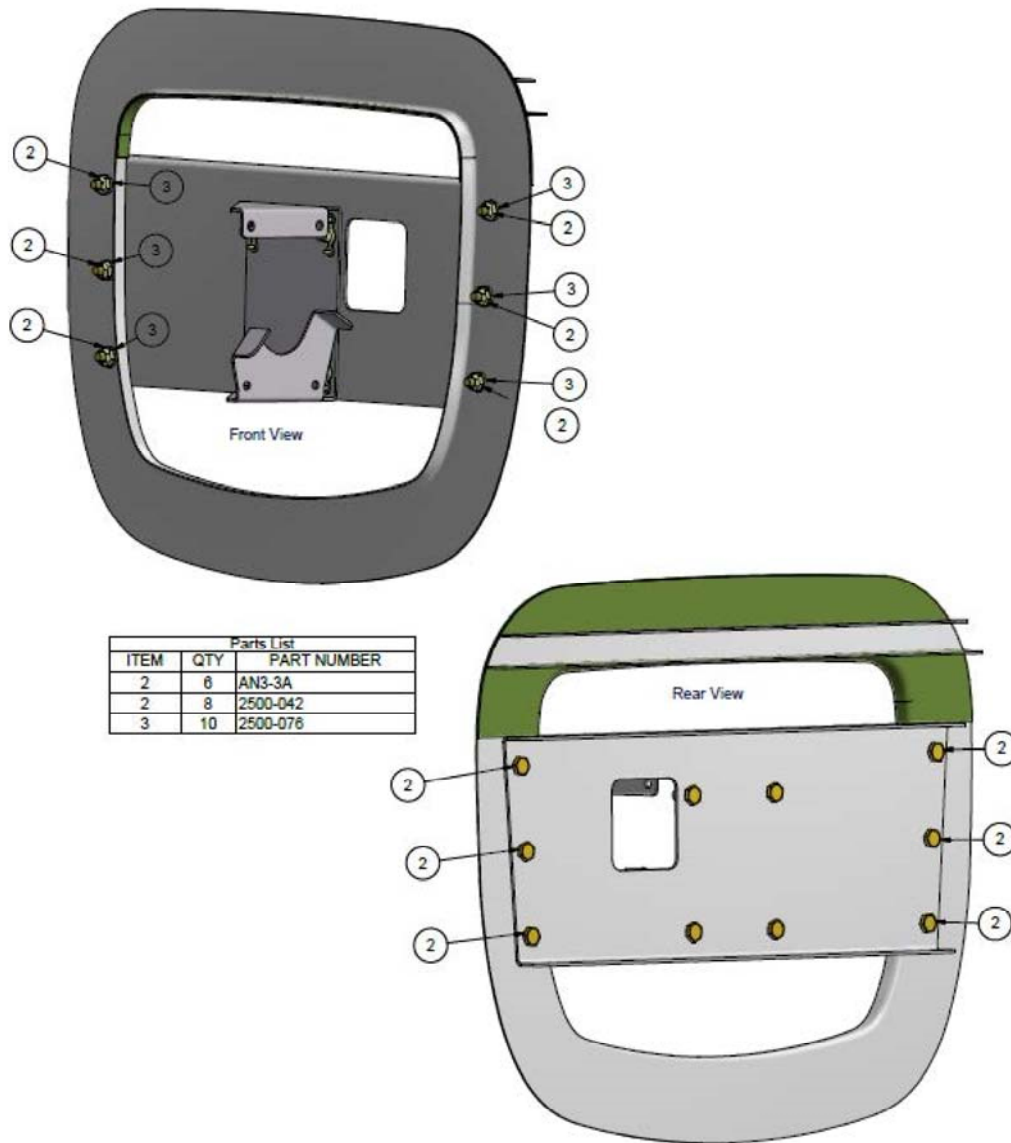

Figure 3-8
(1) Attach the Torque Pitch Plate and Pitch Bracket Assembly to the former as shown in Figure 3-8, Torque bolts to 20-25 in-lb.